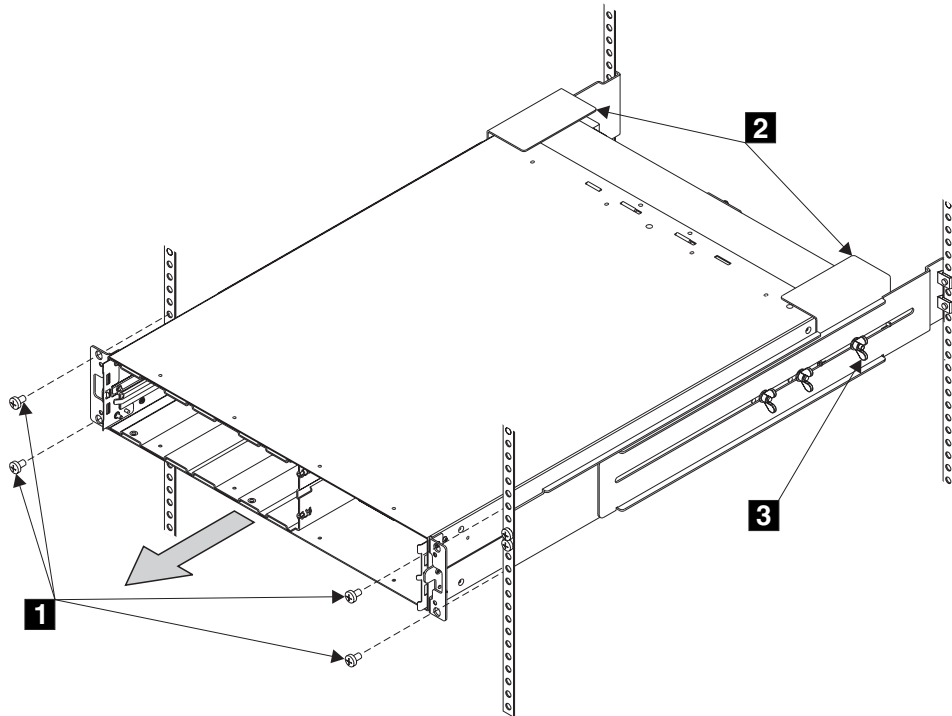

Figure 256. Removing the 2145 UPS
7. At the front of the 2145 UPS, unscrew the mounting screws (1 in Figure 256 on page 262).